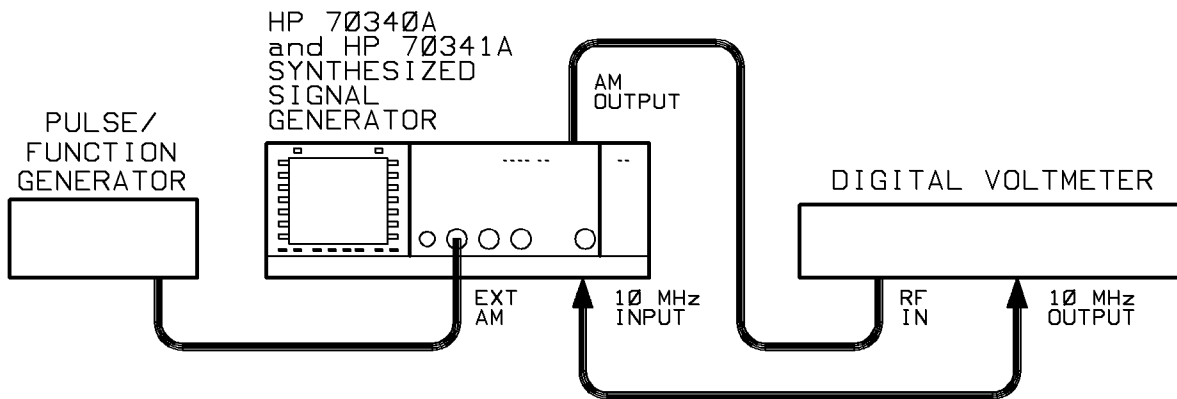

Figure 1-6. HP 70340A AM OUTPUT Check Setup
1. Set up the equipment as shown in Figure 1-6.
5. Connect the equipment as shown in Figure 1-6 with the voltmeter connected to AM OUTPUT on the HP 70340A rear panel.